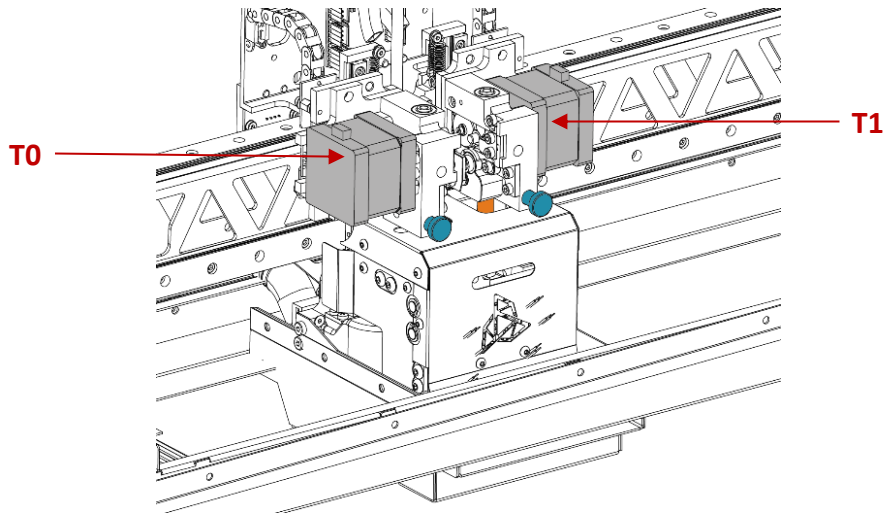
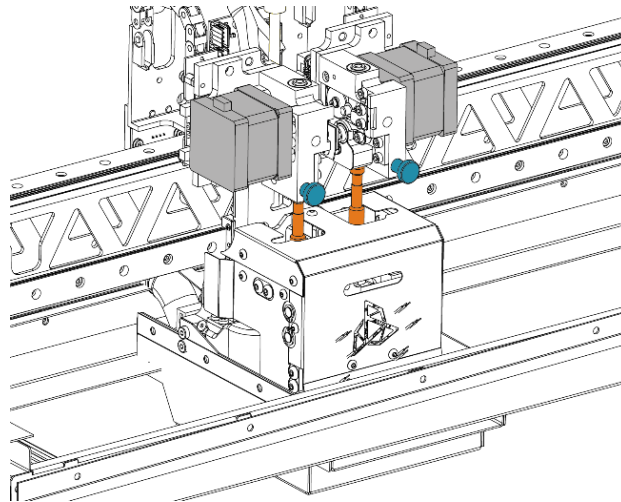

Fig. 84 Unlocking extruders – step 1
Fig. 85 Unlocking extruders – step 2
11. Unlock the T0 extruder and the T1 extruder (Fig. 84, grey) from the hotend sleeve (Fig. 84, 85, orange) by pressing in the T0 extruder locking mechanism (Fig. 84, blue). The unlocked extruder will be set to a higher position (Fig. 84, grey).
19. Press and hold the T0 extruder locking mechanism (Fig. 85, blue), then lower and release the T0 extruder (Fig. 85, grey). Check that the extruder is locked on the hotend sleeve by pushing lightly it upwards. When the extruder is locked properly, it will stay in the lower position (Fig. 84). Repeat the procedure for the T1 extruder.